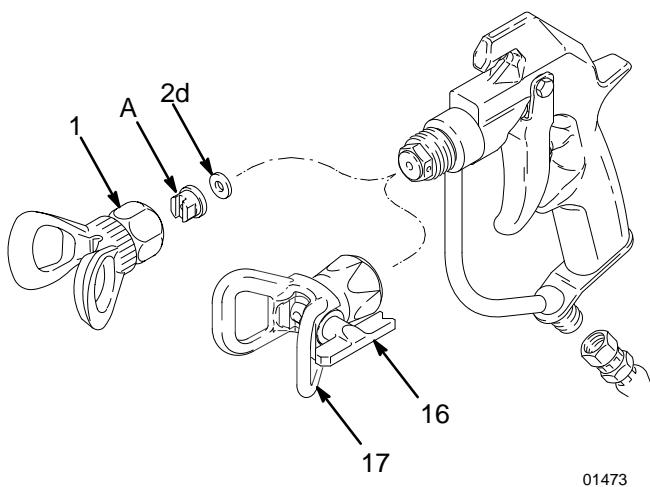

Fig. 2
1. Connect a grounded fluid hose to the gun inlet. See Fig. 2.
4. Models 235–460, 235–461, and 235–462: screw the tip guard (1) and install the tip (A) and the gasket (2d) in the nut of the tip guard. Screw the assembly firmly onto the gun. Tighten the assembly with a wrench. See Fig. 2.
5. Models 235–463, 235–464, 238–591, 236–531 and 238–966: install the SwitchTip (16) and the tip guard (17). See manual 308–644 or 307–991, supplied.